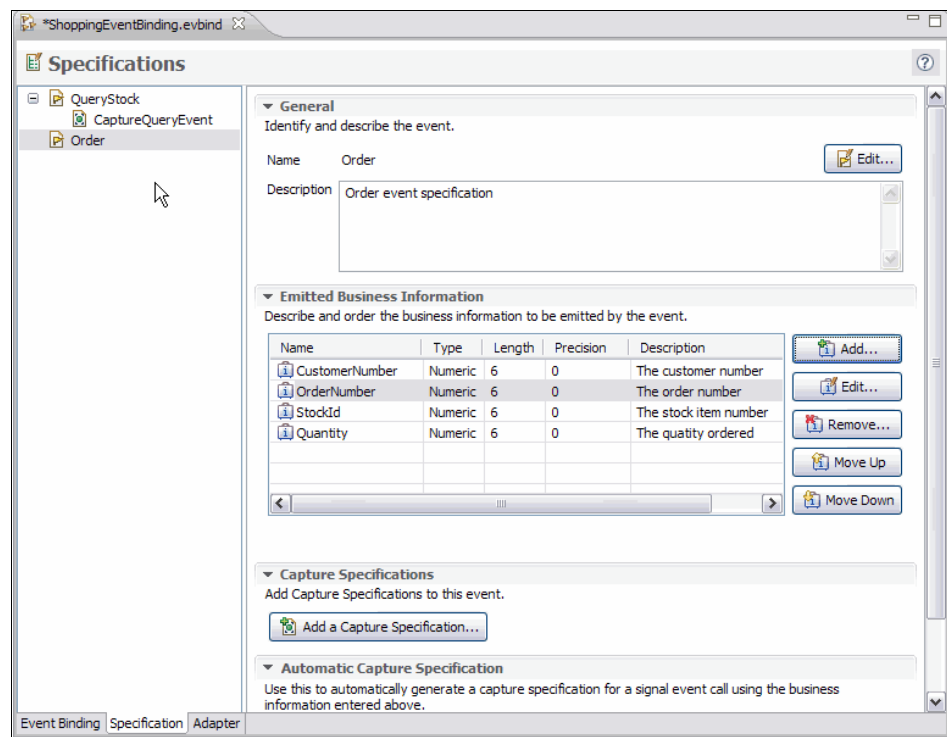

Figure 5-48 Adding business information
3. Click the **Order** specification and the **Specification** tab and add the Emitted Business Information as shown in Table 5-1 and Figure 5-48.